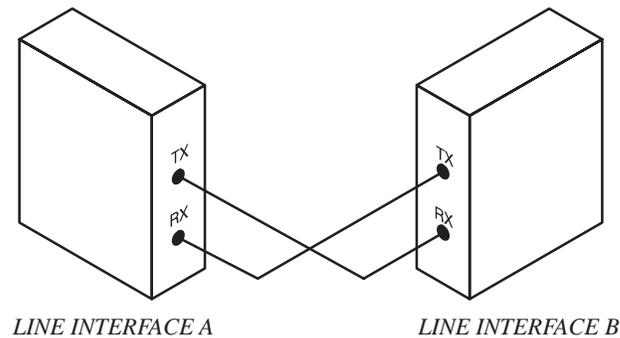

Figure 6. Typical 4-Wire Line Modem Interconnection
- (1) Set both switches of dip-switch 2W/4W SELECT on the unit's front panel to position 4W.
- (2) Connect the TX line wires to terminals 1 and 2 of the unit's front panel TB. The polarity is insignificant. Note that this line should be connected to the line interface's (modem's) RX input on the other end of the line (see Figure 6).